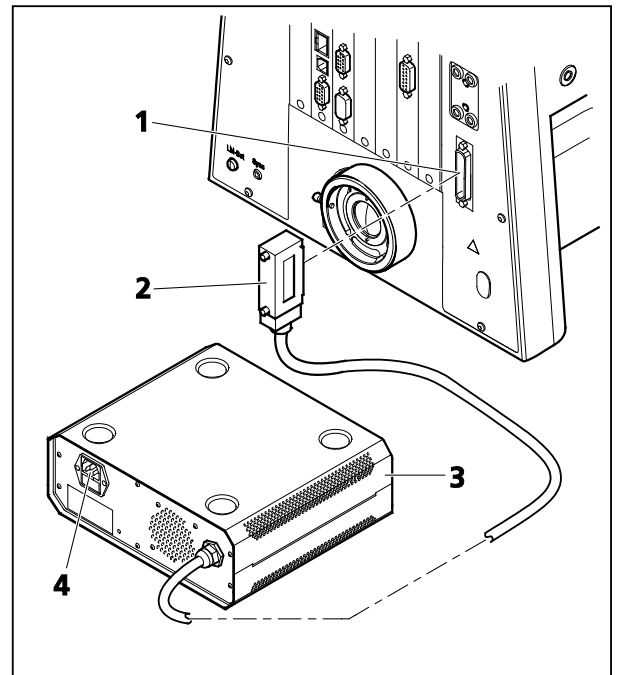

Fig. 42 Axiio Imager 2, motorized
- Plug the cable of the focus linear sensor into connector (Fig. 42/7) on the rear side of the stand and switch on the microscope (see Section 4.3.1).
- Insert the connecting plug (Fig. 42/2) of power supply VP232-2 (Fig. 42/3) into the corresponding socket (Fig. 42/1) on the rear of the stand.
- Plug the power cable first into the power socket (Fig. 42/4) of power supply VP2322 and then into a power outlet. The power supply can be connected to a line voltage of 100 VAC... 240 VAC, 50 Hz – 60 Hz. The power unit adapts **automatically** to the line voltage available.